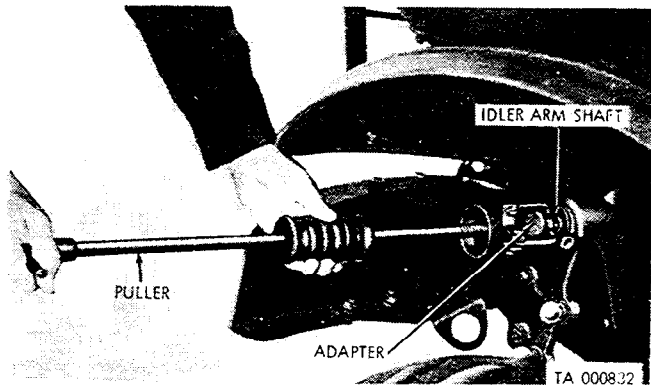

Figure 2-167. Removing idler arm shaft.
(3) Remove the lubrication fitting from the idler arm shaft, and install the adapter (fig. 2-167) in the fitting opening. Install the puller on the adapter and remove the idler arm shaft (fig. 2-167). Remove the idler arm (F, fig. 2-165). Remove the puller and the adapter.